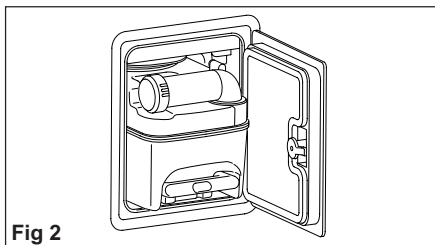

Fig 2
3. Pull the cassette out to the stop and remove it completely (fig 2).